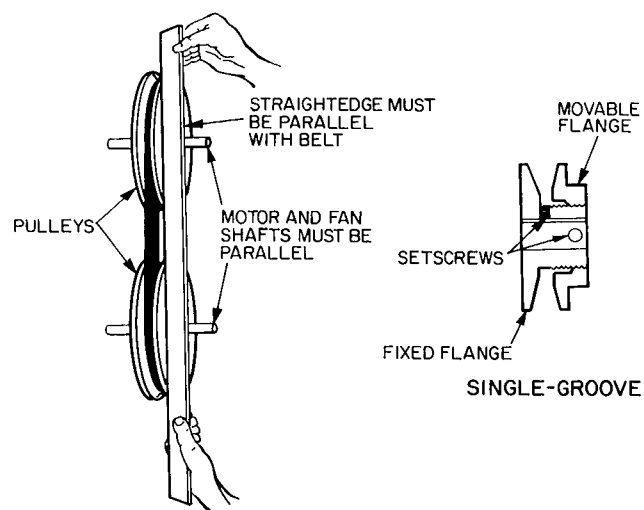

Fig. 28 – Evaporator-Fan Pulley Adjustment
3. Loosen movable pulley flange setscrew (see Fig. 28).